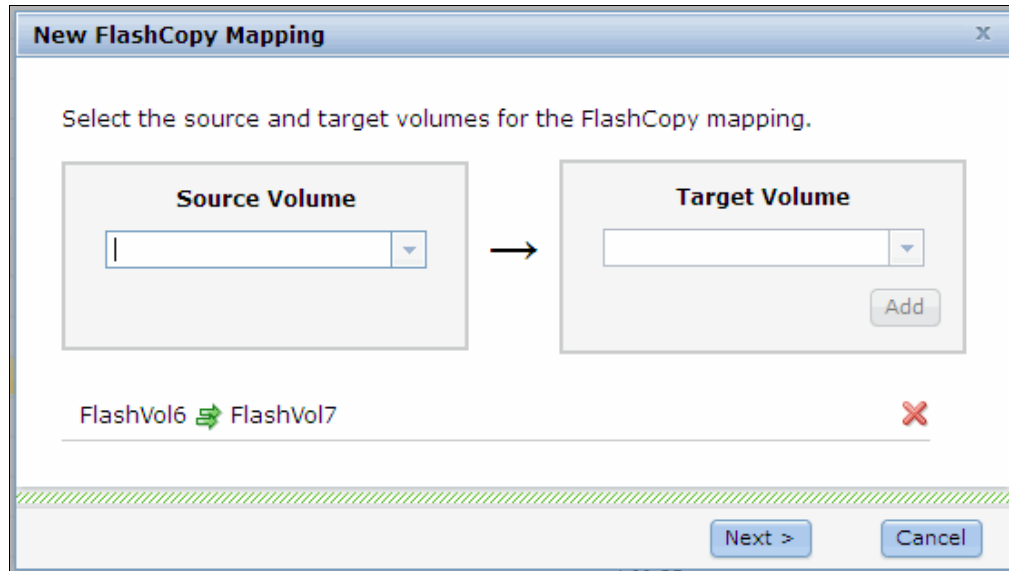

Figure 10-27 Add FlashCopy mapping
3. After you click **Add**, the FlashCopy mapping is listed, as shown in Figure 10-27 on page 475. Click the red X if the FlashCopy mapping is not the one you want to create. If the FlashCopy mapping is what you want, click **Next** to continue.